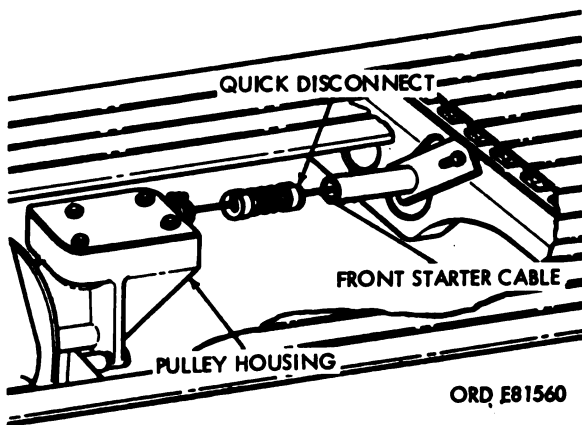

Figure 2-14. Location of quick-disconnect coupling.
*d. Disconnect front starter cable from rear starter cable at front end of quick-disconnect coupling (fig. 2-14).*